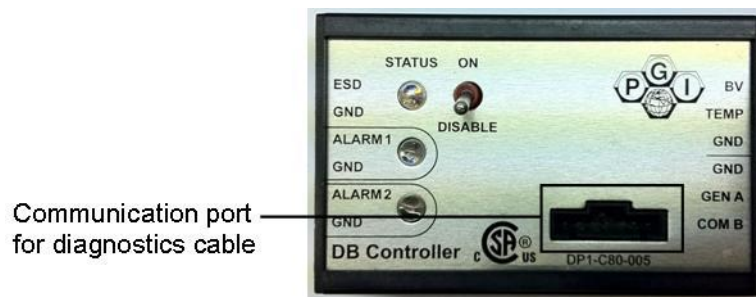

Figure 3-3. Communication port
2. Connect the USB end of the diagnostics cable (SK-DB1-003) to a USB port on the PC. Connect the other end of the cable to the communication port on the DB1 controller, shown below in Figure 3-3.